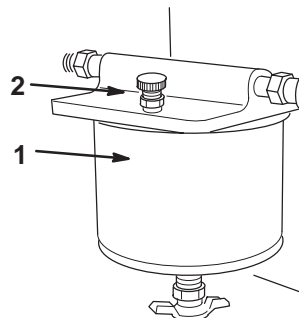

Figure 32
- Open the bleed screw on top of the fuel filter to fill the bowl with fuel (Fig. 32).